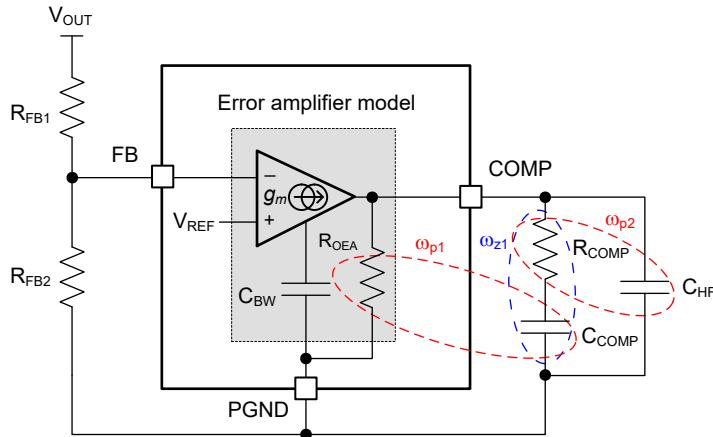

Figure 8-2. Error Amplifier and Compensation Network
Figure 8-2 shows a Type-II compensator using a transconductance error amplifier (EA). The dominant pole of the EA open-loop gain is set by the EA output resistance, R_{OEA} , and effective bandwidth-limiting capacitance, C_{BW} , as shown by Equation 20.
The EA compensation components create a pole close to the origin, a zero, and a high-frequency pole. Typically, $R_{\text{COMP}} \ll R_{\text{OEA}}$ and $C_{\text{COMP}} \gg C_{\text{BW}}$ and C_{HF} , so the approximations are valid. Figure 8-2 circles the poles in red and the zero in blue.